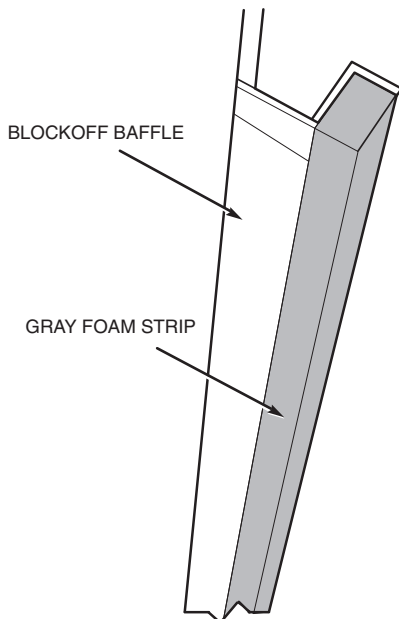

Fig. 31 — Adding Seal Strip to Block-Off Baffle
7. Attach gray foam strip (provided) to block-off baffle on outer face of flange. See Fig. 31.